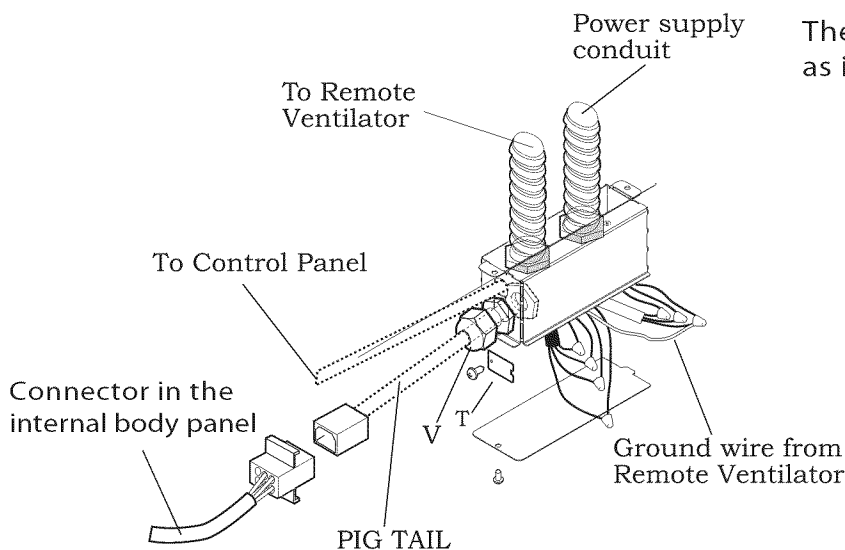

Figure 8
1. Remove the j-box cover as shown in Figure 8.